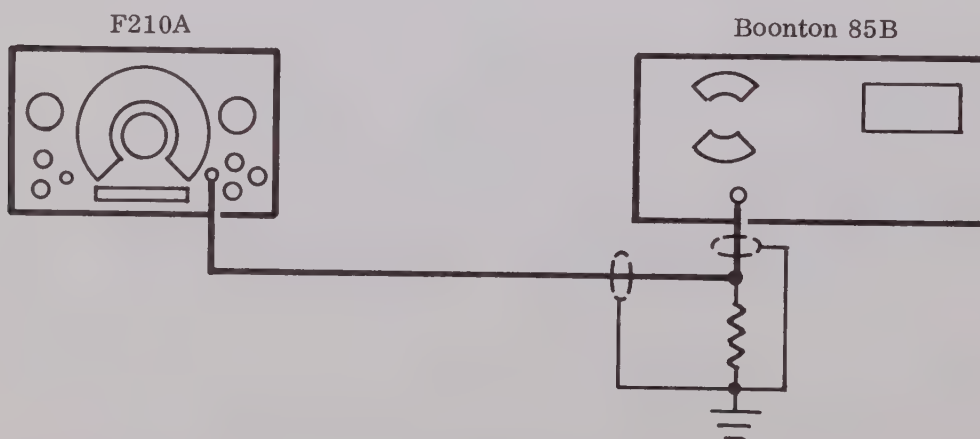

FIGURE 3-9
17. Interconnect the equipment as shown in Figure 3-9, observing signal and